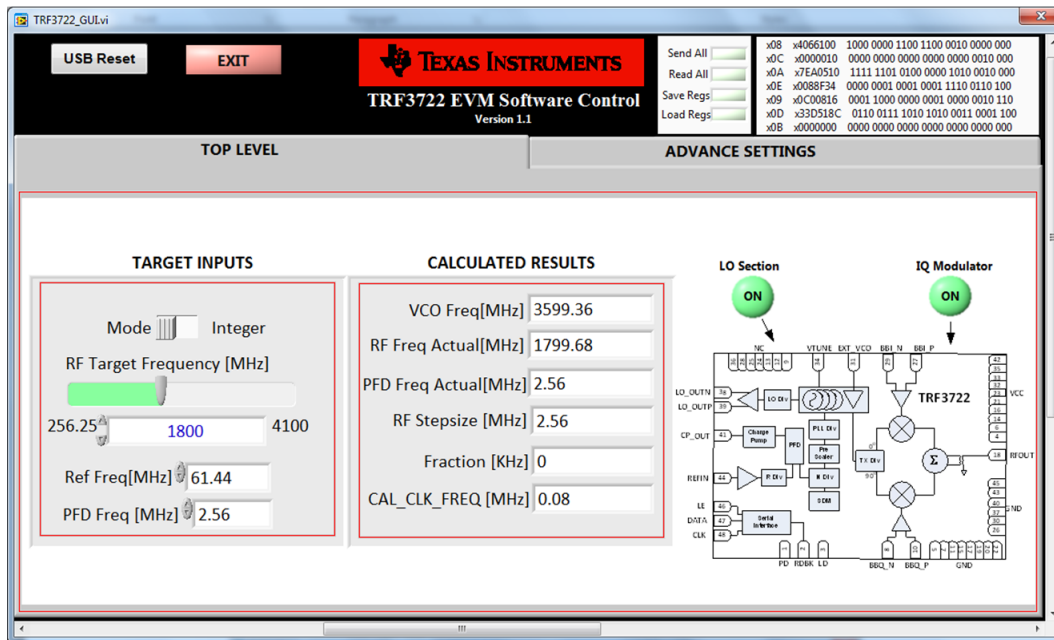
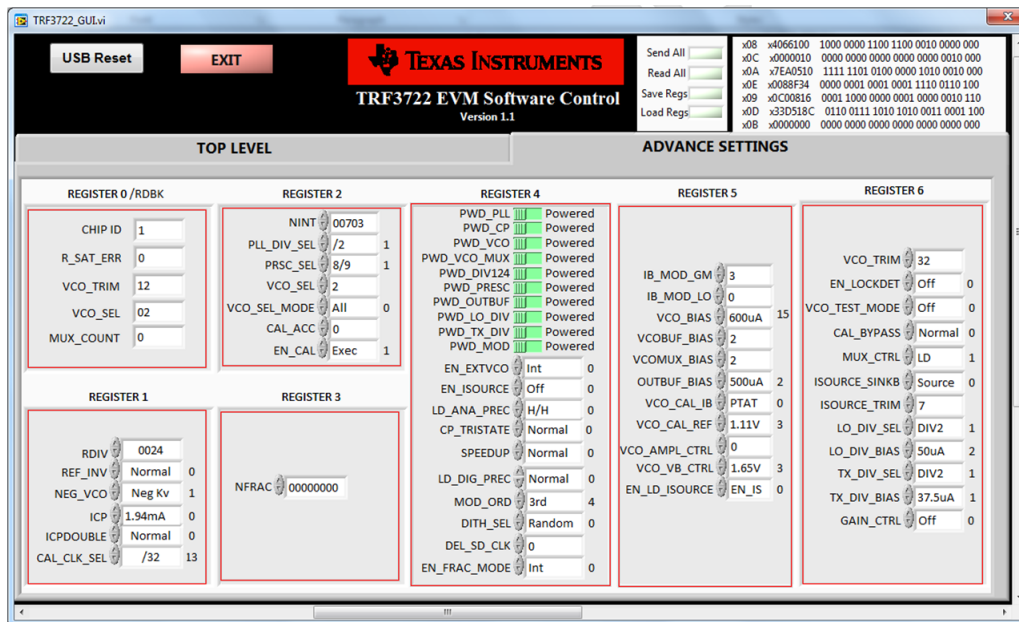

Figure 13. Integer Mode Loop Filter (a)
Figure 14. Integer Mode Loop Filter (b)
- Set the GUI as shown in Figure 13 and Figure 14.